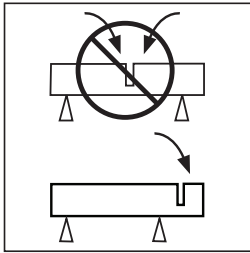

FIG. 16
- If possible support the workpiece in such a way that it is possible to predict what will happen, and that the cut will remain stable and open while cutting. **(Fig. 16)**